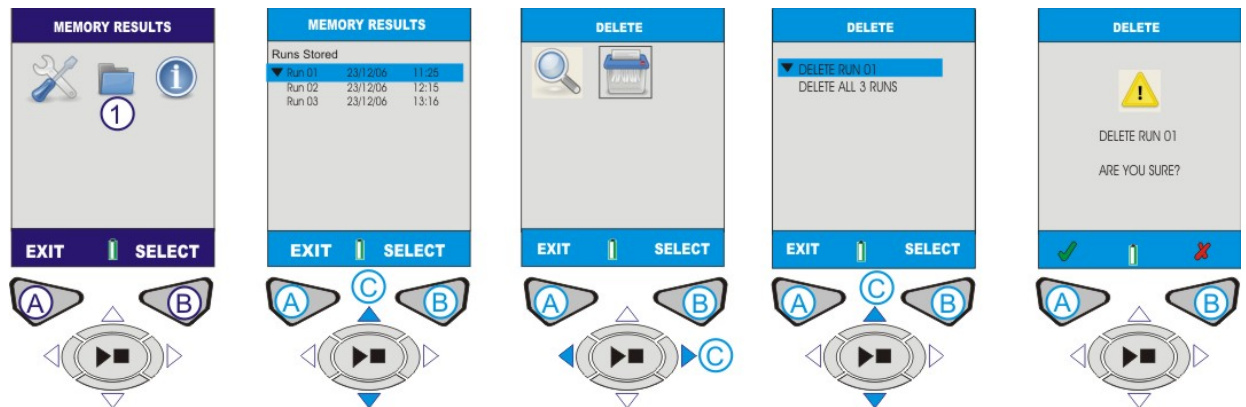

Figure 11 Delete Memory Result
**I. DELETE MEMORY RESULTS (Refer to Figure 11)**